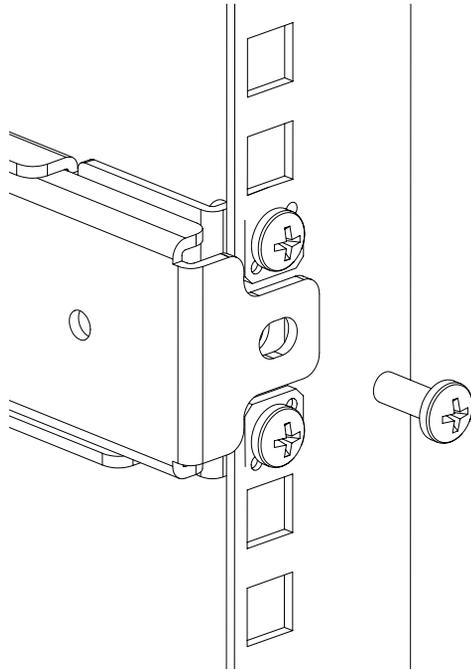
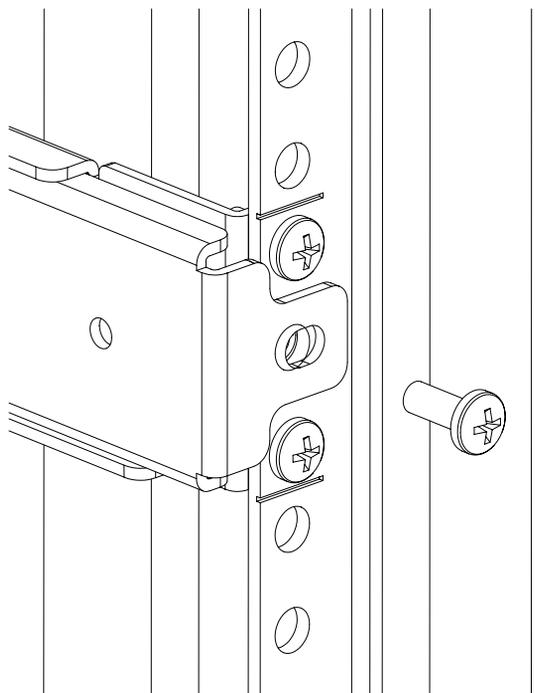

Figure 9: Installing the switch into a rack (HP 9000 Series or comparable EIA rack)
Figure 10: Installing the switch into a rack (HP System/e rack)
Insert the switch into the rack and install (2) #10-32 x 1/2-inch Phillips pan-head screws with captive star lock washers with one on each side. See Figure 9 and Figure 10.